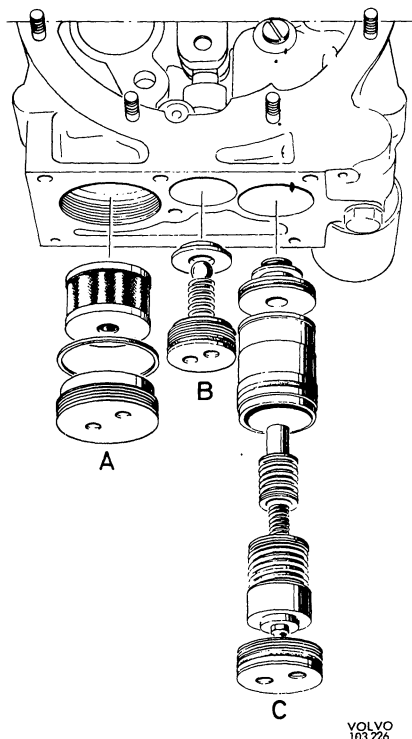

Fig. 4-49. Fitting fine filter, oil pump check valve and relief valve
1. Fit the fine filter. Also fit the relief valve parts in the following order: End washer, cylinder, small piston, low-pressure spring, large piston and plug, see Fig. 4-49.